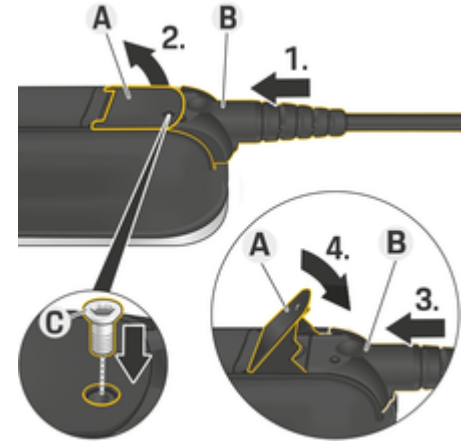

Fig. 16: Connecting cable and securing plug
- ✓ The lever **A** (Fig. 16) is closed.
1. Insert plug **B** (Fig. 16) into the control panel until resistance is first felt.
2. Lift the lever **A** (Fig. 16).
3. Push in plug **B** (Fig. 16) fully.
4. Close the lever **A** (Fig. 16).
5. Secure plug **B** (Fig. 16) to the control panel with the **C** (Fig. 16) screw.